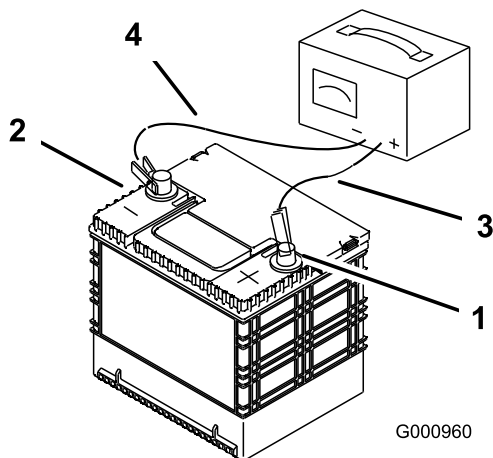

Figure 41
2. When the battery is fully charged, unplug the charger from the electrical outlet; then disconnect the charger leads from the battery posts (Figure 41).